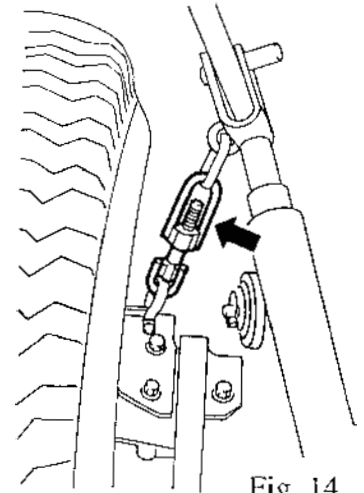

Fig. 14
- 6 Position the tiller to sit approximately in the center of the rear wheels and adjust the stabilizer check links to prevent excessive left to right sway. Fig. 14